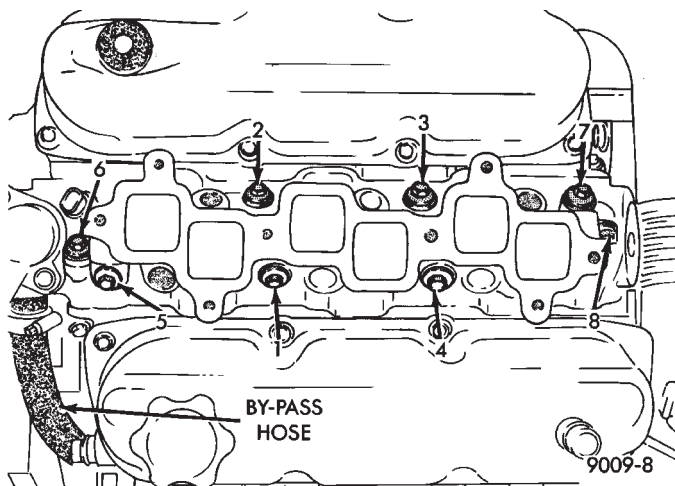

Fig. 15 Intake Manifold Removal and Installation
(4) Install intake manifold and (8) bolts and torque to 1 N•m (10 in. lbs.). Then tighten bolts to 22 N•m (200 in. lbs.) in sequence shown in (Fig. 15). Then tighten again to 22 N•m (200 in. lbs.). After intake manifold is in place, **inspect to make sure seals are in place.** Refer to Group 11 Exhaust System and Intake Manifold to complete Intake Manifold Assembly.
(5) Install exhaust manifolds and tighten bolts to 27 N•m (20 ft. lb.) and nuts to 20 N•m (15 ft. lbs.).
(6) Adjust spark plugs to specification in Electrical Section, Group 8, and install the plugs.